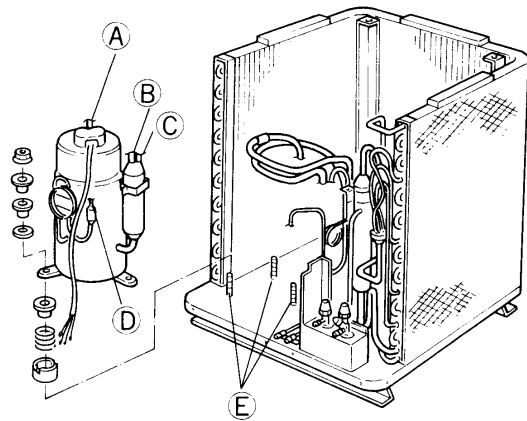

Fig. 21
- 1 ) Use an oxyacetylene torch to separate the four places (A), (B), (C), and (D) where tubing is welded to the compressor.
- 2 ) Remove the three nuts (E) fixing the compressor, and raise the compressor to remove it. Fig. 21